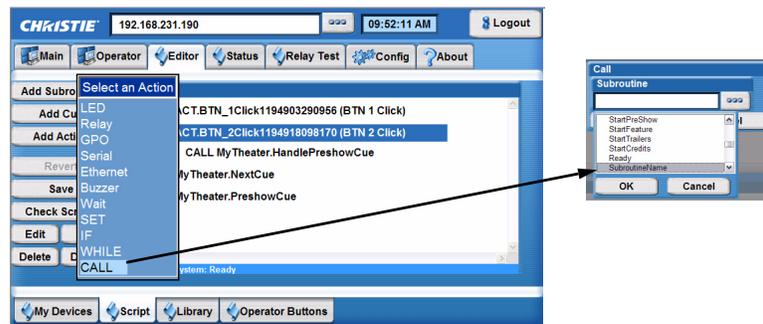

Figure 3-25 Displaying the New Subroutine
9. Click the Subroutine button to open a list of options. The new subroutine will display (**Figure 3-25**).
4. Select a specific action from the list to either open a window to configure that action (as in the GPIO shown in **Figure 3-26**) or to select a predefined action (as in SubroutineName shown in **Figure 3-25**).